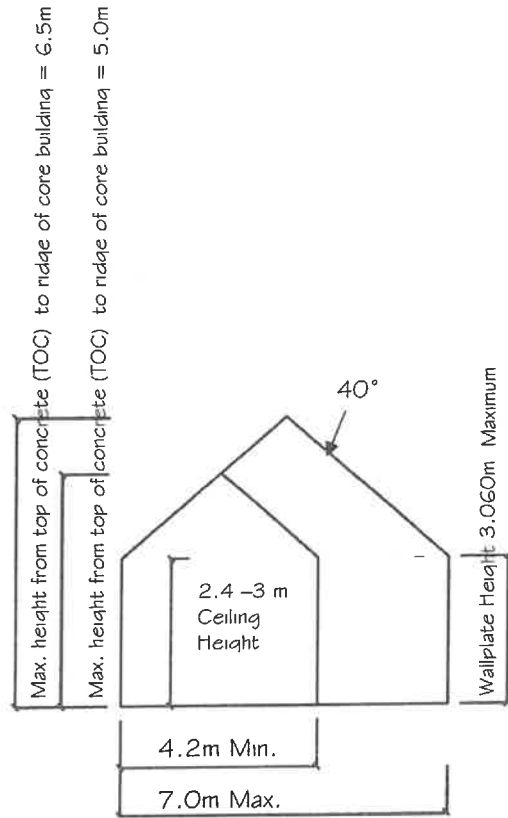

Figure 15: Prescribed wall plate height and gable widths for SINGLE STOREY dwellings
- a) The MAXIMUM HEIGHT of any single storey dwelling measured from the mean natural ground level (of the specific erf on which the dwelling sits) to the ridge of the roof may not exceed 6,5m and that of a double storey dwelling may not exceed 8,5m (refer Figures 15 & 16 below).
- c) CORE BUILDING AND EXTENTIONS - WALLPLATE HEIGHT: The wallplate of a single storey dwelling may not exceed 3060mm and the wallplate of a double storey dwelling may not exceed 5525mm (65 brick courses) as illustrated in figures 15 & 16 below.
- Single Storey Dwelling: 4.2m min. – 7.0m max. (Figure 15)